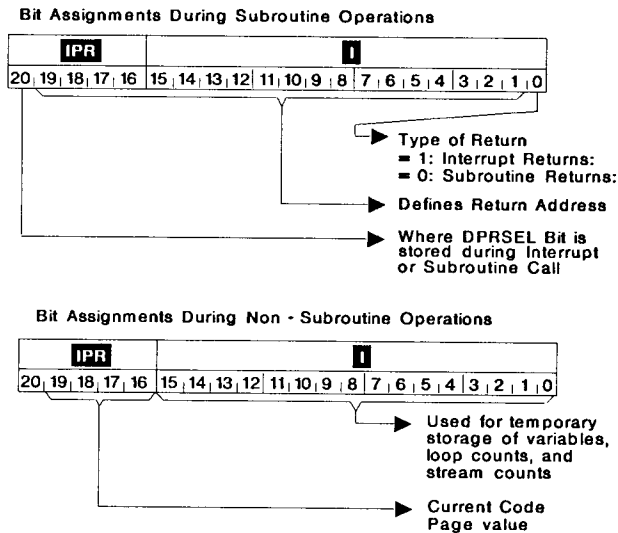

FIGURE 11. IP AND IPR BIT ASSIGNMENTS
I : The **Index Register** contains 16 bits of the 21-bit top element of the Return Stack, and is also used to hold the count for streamed and loop instructions (see Figure 11). In addition, **I** can be used to hold data and can be written from **TOP**. The contents of **I** may be accessed in either the push/pop mode in which values are moved to/from stack memory as required, or in the read/write mode in which the stack memory is not affected. The ASIC address used for **I** determines what type of operation will be performed (see
IPR : The **Index Page Register** extends the Index Register (IP) by 5 bits; i.e. when a Subroutine Return is performed, the IPR contains the Code page from which the subroutine was called, and comprises the 5 most significant bits of the top element of the Return Stack. See Figure 11. During non-subroutine operation, writing to IPR causes the current Code page value to be written to IPR. Reading or writing directly to IPR does not push the Return Stack.
The data on the Return Stack takes on different meaning, depending upon whether the Return Stack is being used for temporary storage of data or to hold a return address during a subroutine operation (Figure 11).